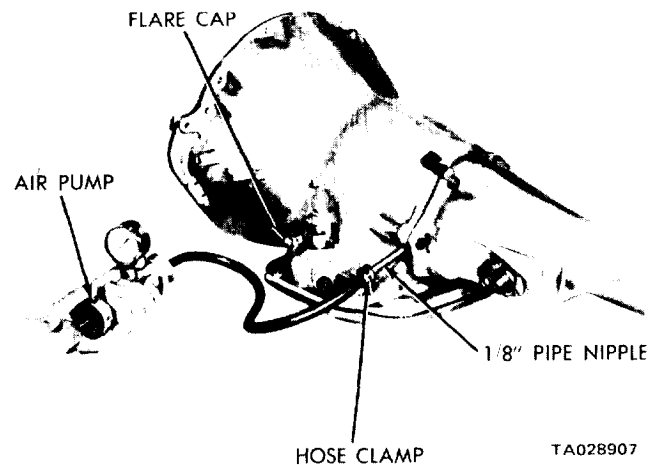

Figure 4-20. Pressurizing the Transmission.
(4) Attach and clamp the air hose nozzle to the pipe nipple, which is in the rear cooler line fitting position in the case (figure 4-20).